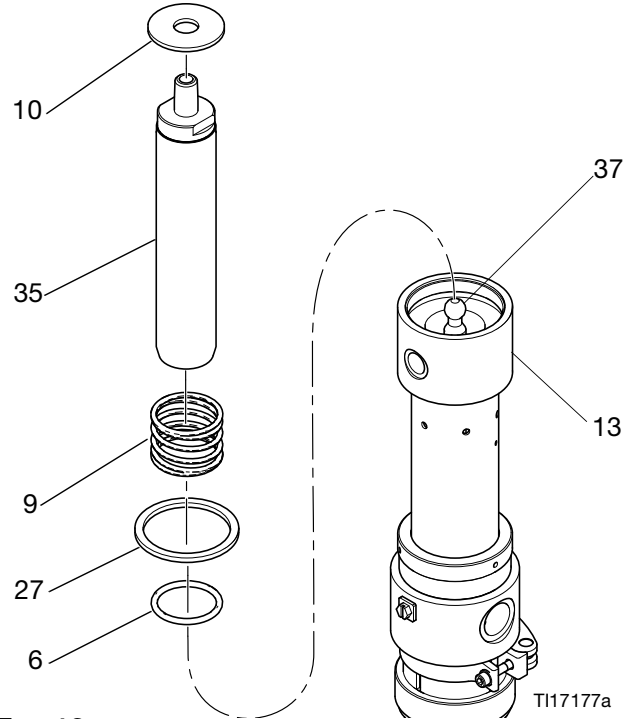

FIG. 13
- Remove washer (10), lower spring (9), and gasket (27). Inspect for wear or damage and replace as necessary. See FIG. 13.
- Reinstall o-ring (6). Reconnect the piston rod (35) and the pump connecting rod (37). See FIG. 13.
- Reinstall the gasket (11), spring (9), and washer (10). Reassemble the piston (38). Apply thread sealant to the threads of the piston rod (35) and carefully screw the piston (38) onto the rod. See FIG. 11 and FIG. 13.